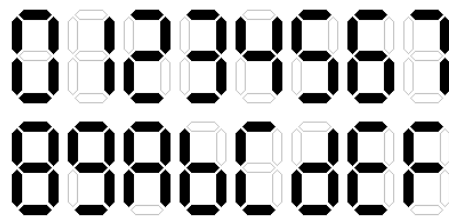

Figure 1. 7-segment-based display of hexadecimal digits.
When the device is powered on, it will show “-” on the 7-segment LED display. The RPG is utilized for selecting a value for each hexadecimal digit (Fig. 1). A clockwise (CW) operation of the RPG will increase the displayed value (“-” -> “0” -> “1” -> ... -> “F”), and a counter clockwise (CCW) operation of the RPG will decrease the displayed value (“F” -> “E” -> ... -> “0”). To confirm the selection and enter the next hexadecimal digit, the user needs to press the push button for less than 1 second. If “F” is reached in CW operation, a further CW rotation will not change the display. Similarly, if “0” is reached in CCW operation, a further CCW rotation will not change the display.